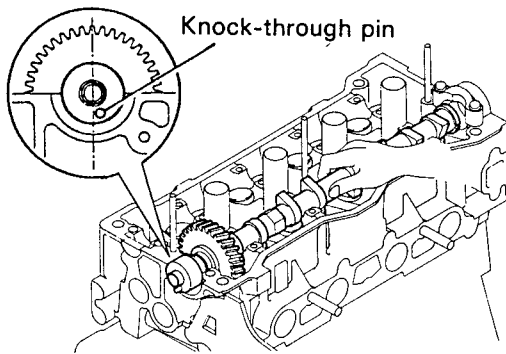

Fig. 1
2. Place the exhaust camshaft on the cylinder head as shown in Fig. 1 below.